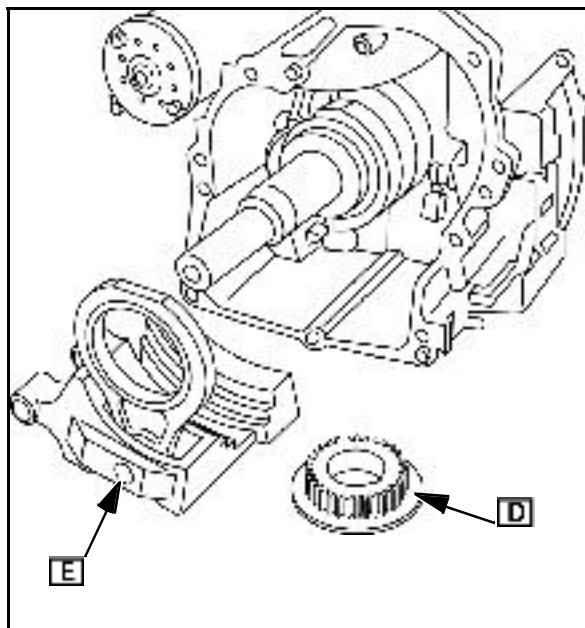

Fig. 12
4. Remove crankshaft timing gear (D) and counterweight assembly ([E] Fig. 12).